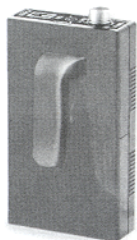

Fig. 2
2. The transmitter is equipped with a belt-clip as in Fig.2.